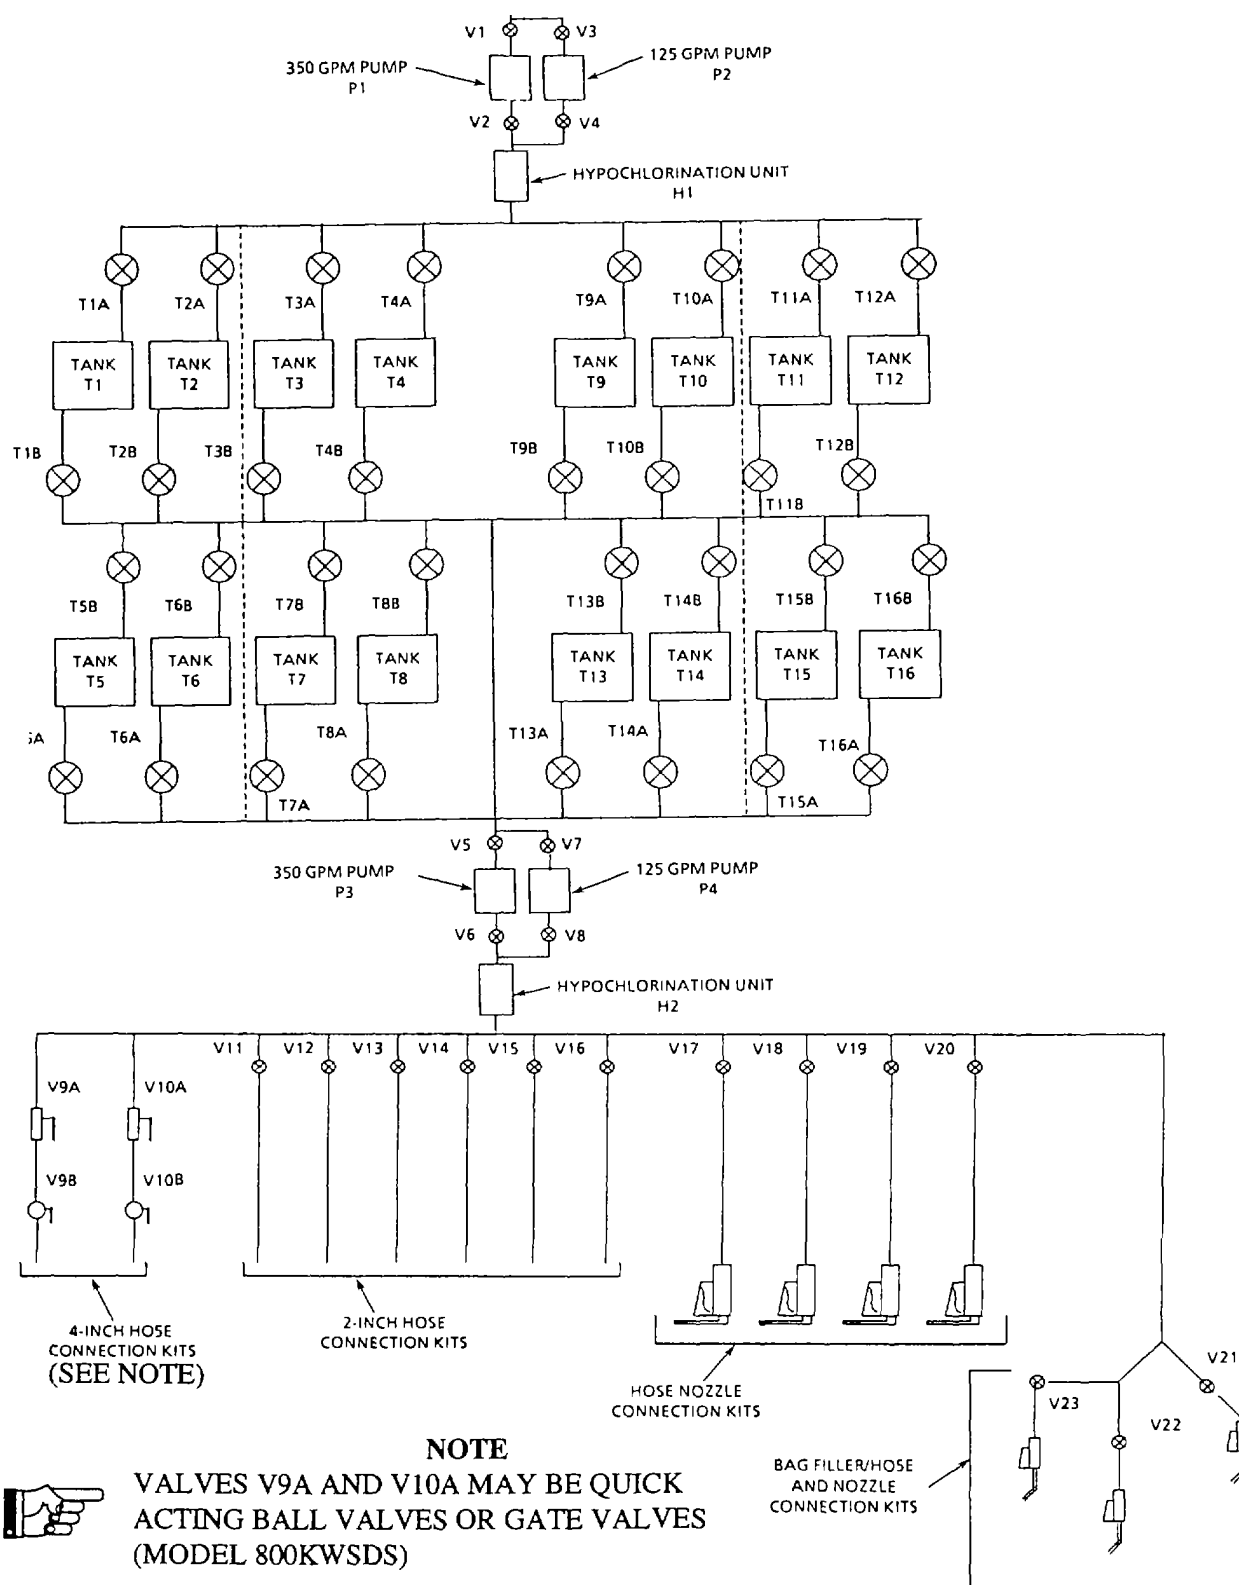

Figure 2-24. Water System Control Valves.
- b. Water System Diagram. Refer to figure 2-24. Water flow to and from the collapsible fabric tanks is controlled by gate valves identified by the prefix "T". The number following the prefix tells which tank it controls. The suffix "A" indicates that the gate valve controls water flow to the tank. The suffix "B" indicates the gate valve controls water flow from the tank. By opening or closing the respective "A" (inlet) or "B" (outlet) gate valves, the tanks may be filled or discharged.
- c. Startup. Refer to figure 2-24.
Discharge Mode. Refer to figure 2-24.
- (17) To dispense water through hose and nozzle connection kits, proceed as follows:
- (18) When discharge mode is complete, shutdown 350 gpm pump P3 (refer to the applicable TM) and 125 gpm pump P4 (refer to the applicable TM).
- d. Shutdown. Refer to figure 2-24.
- (1) Shut down 350 gpm pump P1. Refer to the applicable TM.
- (2) Shutdown 125 gpm pump P2. Refer to the applicable TM.
- (3) Close gate valves V1, V2, V3 and V4.
- (4) Shut down hypochlorination unit H1. Refer to the applicable TM.
- (5) Close water tank inlet gate valves T1A through T16A.
- (6) Close water tank outlet gate valves T1B through T16B.
- (7) Shutdown 350 gpm pump P3. Refer to the applicable TM.
- (8) Shutdown 125 gpm pump P4. Refer to the applicable TM.
- (9) Close gate valves V5, V6, V7 and V8.
- (10) Shut down hypochlorination unit H2. Refer to the applicable TM.